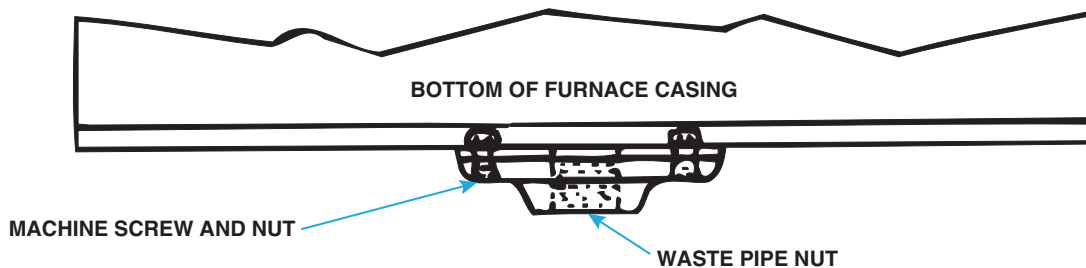

Figure 25. Condensate Drain Connection
1. Install drain flange (option CS1, PN 31765) in bottom of furnace casing as shown in Figure 25 and secure using two machine screws (#10-32 × 1-inch-long) and nuts.